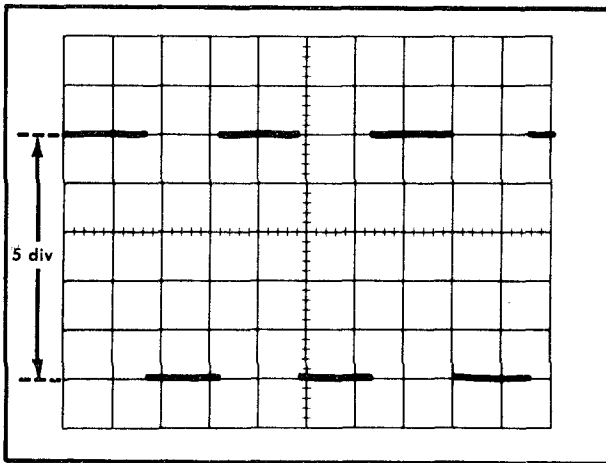

Fig. 2-2. Adjusting the AMP CAL control for proper deflection.
d. Adjust the AMP CAL control to obtain exactly 5 div of vertical deflection (see Fig. 2-2).